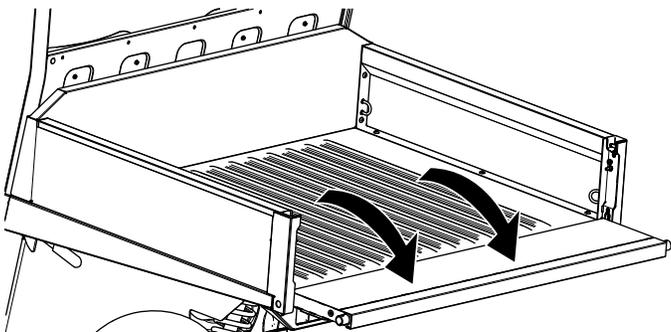

Figure 13
3. Lower the tailgate until it is flush with the bottom of the cargo bed (Figure 13).